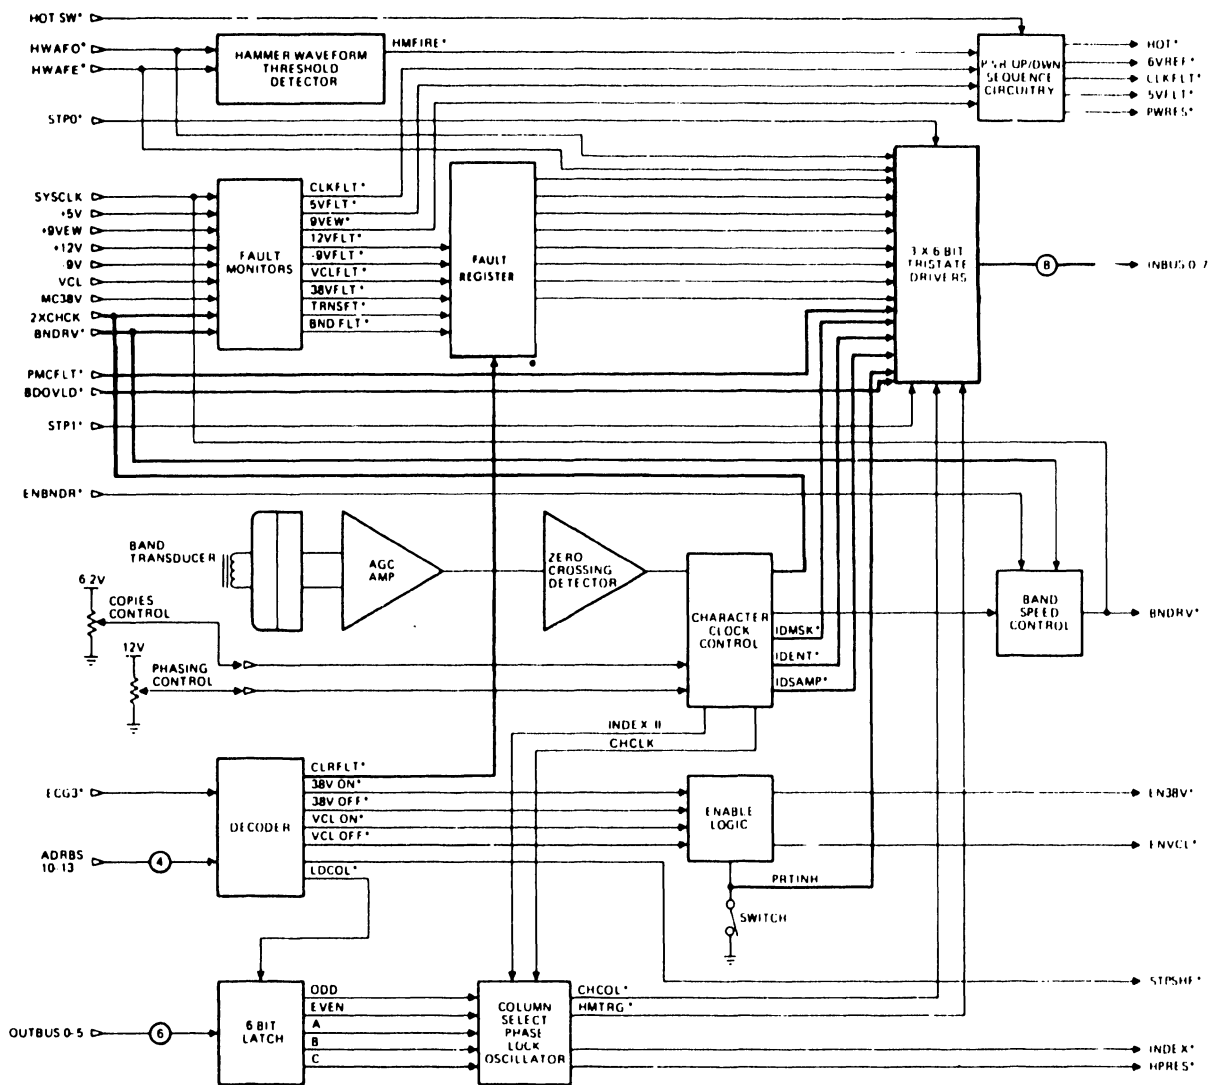

Figure 2-43. Timing and Status CCA Block Diagram
**Figure 2-43** shows, in a block diagram format, the signals and devices necessary for the Timing and Status CCA functions. The following paragraphs discuss the devices shown in the block diagram as they relate to the operation of the Timing and Status CCA.